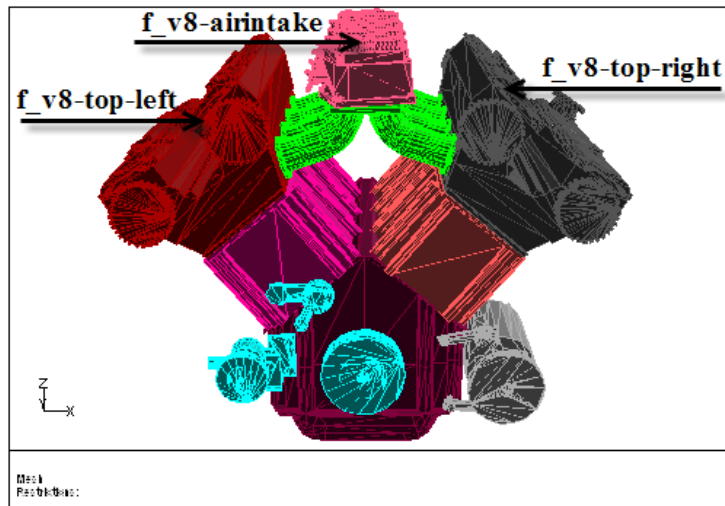

Figure 7.1: Grid Display
2. Display the mesh (Figure 7.1).
- (e) Click Display in the Display Grid panel and rotate the geometry about the x-axis to obtain the view shown in Figure 7.1.